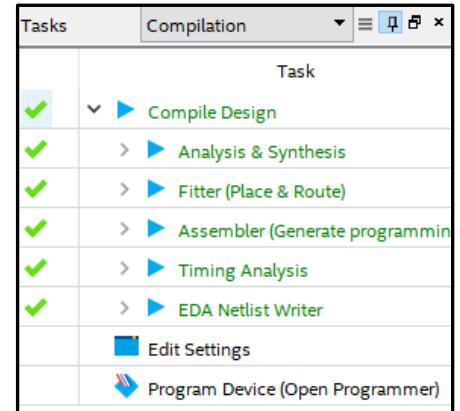

Figure 5: Completed Full Compilation
- To compile your design, click on the blue isosceles triangle button , or double click on “Compile Design” in the task utility window, or select “Processing” and then “Start Compilation”. You will be asked to save the BDF file if it has unsaved changes. Select “Yes.” After the file is compiled (which depending on your computer, may take 30 seconds to two minutes), your task utility window should be similar to the image in Figure 5.